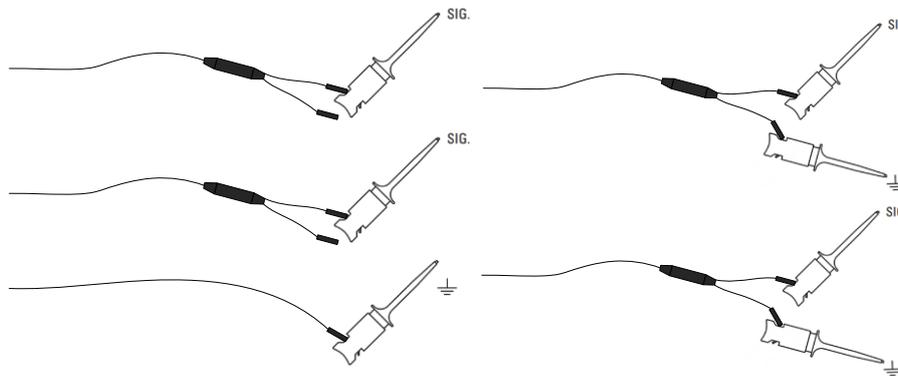

Figure 2-4
- 4) Based on the measurement requirements, connect the channels to the signals to be measured. For low-frequency signals (<5MHz), you can connect the signal under test and a common ground signal (Figure 2-4 left). For high-frequency signals, it is recommended to individually ground each channel to achieve optimal signal integrity (Figure 2-4 right).